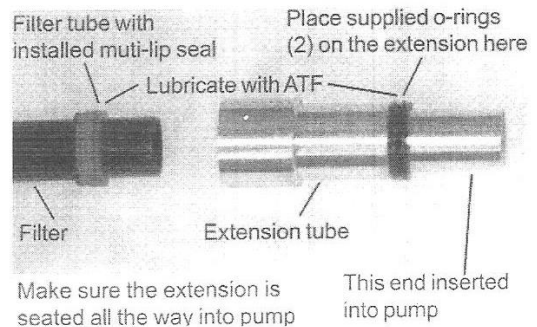

Figure 4
5. For the TH-700 R4 and 4L60 transmissions, install the supplied O-rings on the extension tube provided in the kit (See figure 4). Lubricate the seal on the filter. Place the extension tube on the oil filter. Install the assembly into the oil pump bore.